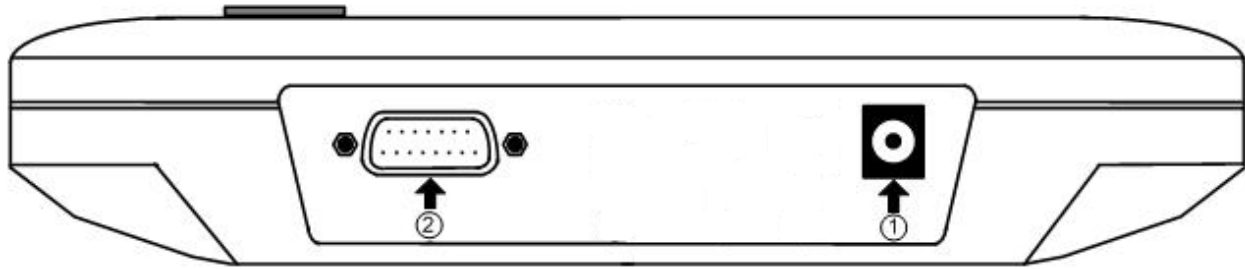

Fig. 1-2 DELUXE Connectors
This section contains important information concerning the installation and operation of the DELUXE. The DELUXE is delivered ready to use. Just install the 4 AA batteries, insert a detector head in the Probe Input Jack (#2 in Figure 1-2) and press the **I/O** key.
- 3- **Turn the DELUXE off** and connect a power detector head to the DELUXE using the **PROBE INPUT JACK** (see Fig. 1-2). It is recommended to turn the DELUXE off before connecting a new head in order to prevent any loss of information from the detector head's EEPROM.